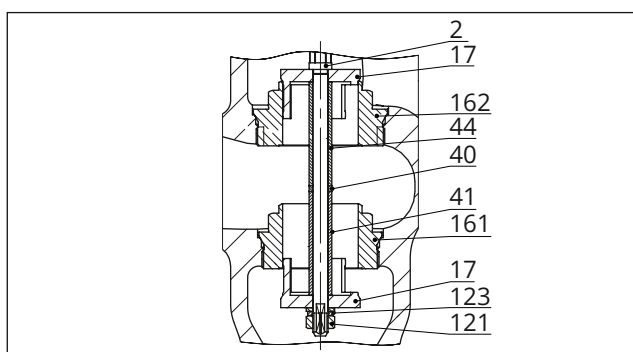

Fig. 25: Valve in DN 32 and 50/NPS 3 and 4 · Diverting valve
14. Screw in the bottom seat (161). Observe tightening torques.
15. Use a suitable tool to catch the bottom plug (17) and the spacers (41, 40, 44).
16. Screw in the top seat (162). Observe tightening torques.
17. Place the top plug (17) into the top seat (162).
18. Carefully guide the plug stem (2) from above through the top plug (17), top spacer (44), middle spacer (40), bottom spacer (41) and bottom plug (17).
19. Apply a suitable lubricant to the hex nut (121) and the threaded end of the plug stem (2).
20. Slide the retaining washer and shim (122, 123) from below onto the plug stem (2).
21. Thread and tighten the hex nut (121) onto the plug stem (2). Observe tightening torques.
22. Apply a suitable lubricant to all packing parts and the plug stem (2).
23. Carefully place the valve bonnet (27) and flange (34) over the plug stem (2) and the studs (51) onto the body (20). Make sure that the gasket (46) is properly seated in the body.
24. Carefully slide the packing parts over the plug stem into the packing chamber using a suitable tool. Observe the proper sequence (see Fig. 25).
25. Fasten down the flange (34) with the body nuts (52). Tighten the body nuts gradually in a criss-cross pattern. Observe tightening torques.
26. Apply a suitable lubricant to the thread of the threaded bushing (131). Screw in the threaded bushing and tighten it. Observe tightening torques.